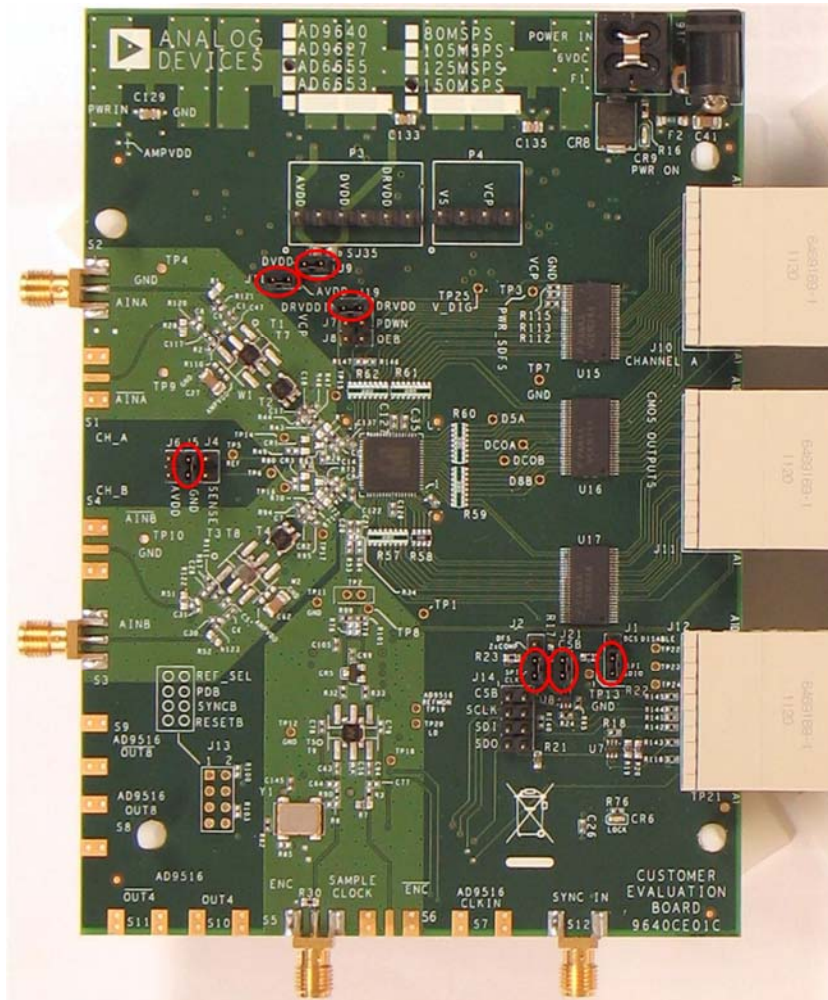

Figure 2. AD6655 Evaluation Board – Jumper Settings
5. On the ADC evaluation board, make sure that jumpers are installed on headers J18, J9, J19, J5, and J21 for the default setup. Also make sure that jumpers are connected between pins 1-2 on J1 and J2. Refer to Figure 2 for placement of jumpers.